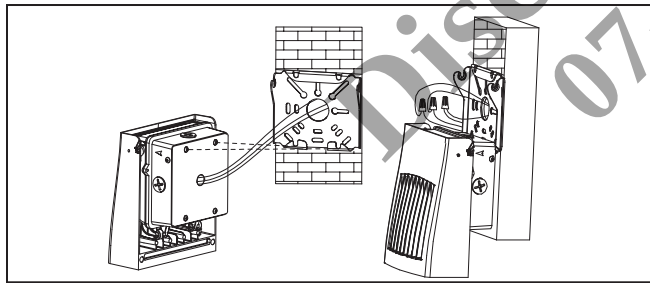

Figure 8.
10. Using the 2 top back hanging screws of the fixture, temporarily hang the fixture on the bottom hooks of the mounting plate to safely make appropriate electrical connections by following the wiring diagram, use electrical connectors. Carefully tuck all the wires and connectors into the J-box. (Figure 8,9)